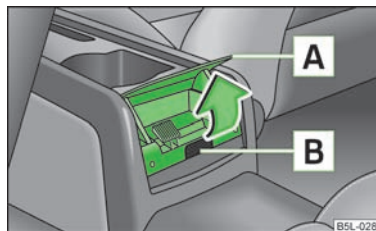

Fig. 67
- Grasp the ashtray cover at the lower edge **A** and fold it open in the direction of arrow » Fig. 67.